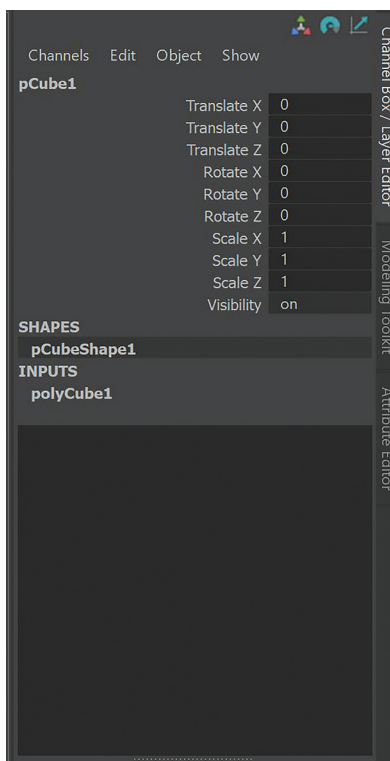

FIGURE 1.4 The Channel Box is at the top right of the Maya UI and allows you to change the position, rotation, and scale of a selected object.
Step 2: Dimension. With a bit of research, you will find that a common security camera is about 18 cm long, 10 cm high, and 10 cm wide. Make sure that the box is selected and look to the right side of the UI. In the Channel Box (Figure 1.4),